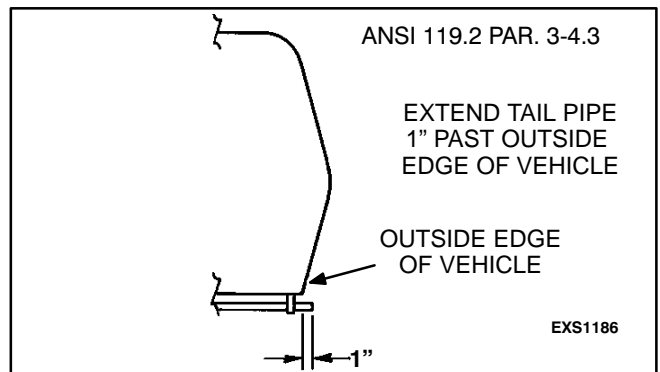

FIGURE 3-14. TAIL PIPE EXTENSION BEYOND VEHICLE
2. Do not terminate the exhaust tail pipe under the vehicle. The exhaust tail pipe must terminate 1 inch (25.4 mm) beyond the side or end of the vehicle (Figure 3-14).